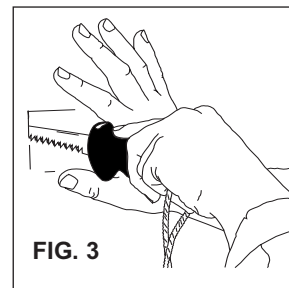

FIG. 3
- ii.) Using a keyhole saw, cut wall board (See Fig. 3). Cutting to the outside of the line will produce a slightly over-sized opening. Mark and cut opposite side of the wall, exercising care to align both openings.